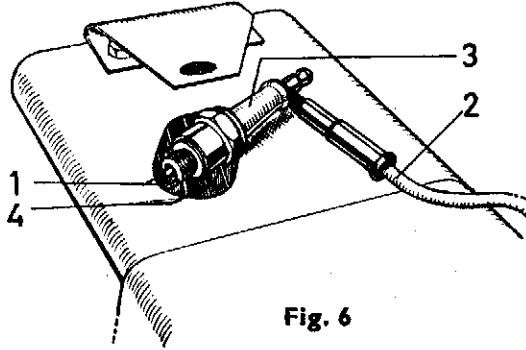

Fig. 6
5. 'Defective sparking plug'. Remedy: With High Tension Lead (2, Fig. 6) attached, rest body of plug in contact with cylinder head fins (4, Fig. 6) and check that spark is visible at the points (1, Fig. 6) when the engine is rotated by recoil starter. If not, clean the plug as follows: Wash well in pure petrol, dry thoroughly and replace. The engine should now start. If however, the interior of the plug is heavily coated with solid carbon deposits, it should be cleaned by sand blasting at a garage. Adjust plug gap to .020 in. If no spark is visible after the above has been carried out, replace the plug; Champion J.8. or Lodge CAN. Also check that the high tension lead (2, Fig. 6) is in good order.